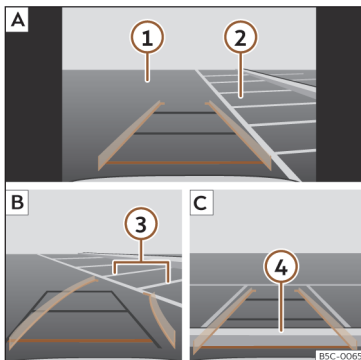

Fig. 163 Display on the infotainment system screen: parking with the reverse assistant.
Key to the >>> **Fig. 163:**
- Stop the vehicle in front of the parking space >>> **Fig. 163** ② **A**.
- Reverse while turning the steering wheel so that the yellow lines enter the parking space. The green and yellow lines must match the side boundary lines ③ **B**.
- Stop the vehicle when the red line has reached the rear boundary ④ **C**.